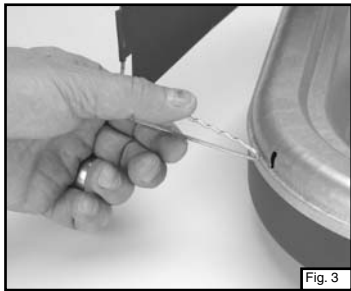

Fig. 3
■ Position windguards as desired. (Fig. 3)